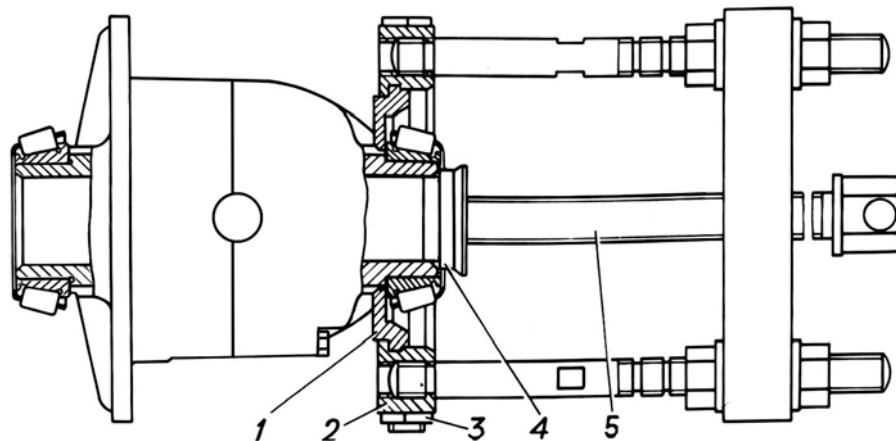

Fig. 3.79. Removing the bearing inner race from the differential compensating case:
Due to the restricted distance from the solenoid 5 (see Fig. 3.73) to the locking differential bearing, differential bearings shall be dismantled with great care avoiding the puller insert 1 (Fig. 3.79) impact on the solenoid to prevent its breaking.
- in case of replacement, press the bearing inner races from the differential cases complete with inserts using the puller as shown in Fig. 3.79. To fit insert 1 shoulders tightly in the differential case recesses, squeeze supports 2 with bolts and nuts 3; press the bearing race by turning the screw 5;